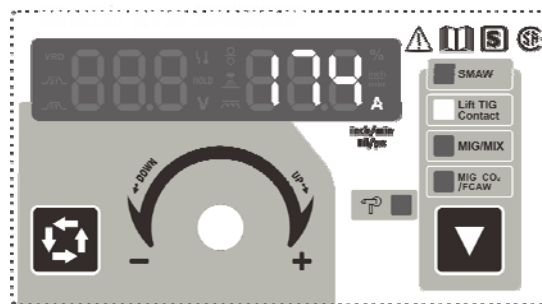

Fig.9 LIFT TIG Mode
- ① When welding stops, press the **Function Switch Key** to **LIFT TIG** mode. The LIFT TIG indicator light will illuminate (**Fig.9**).